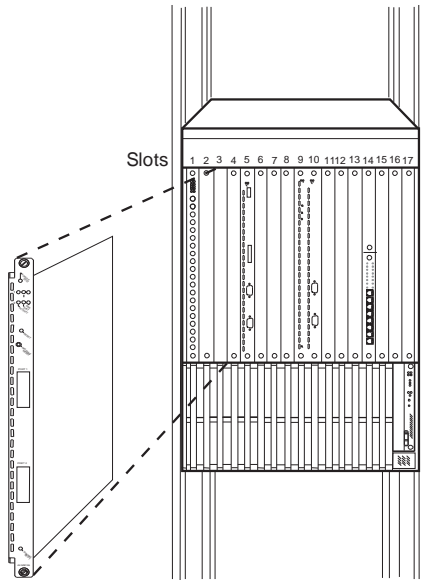
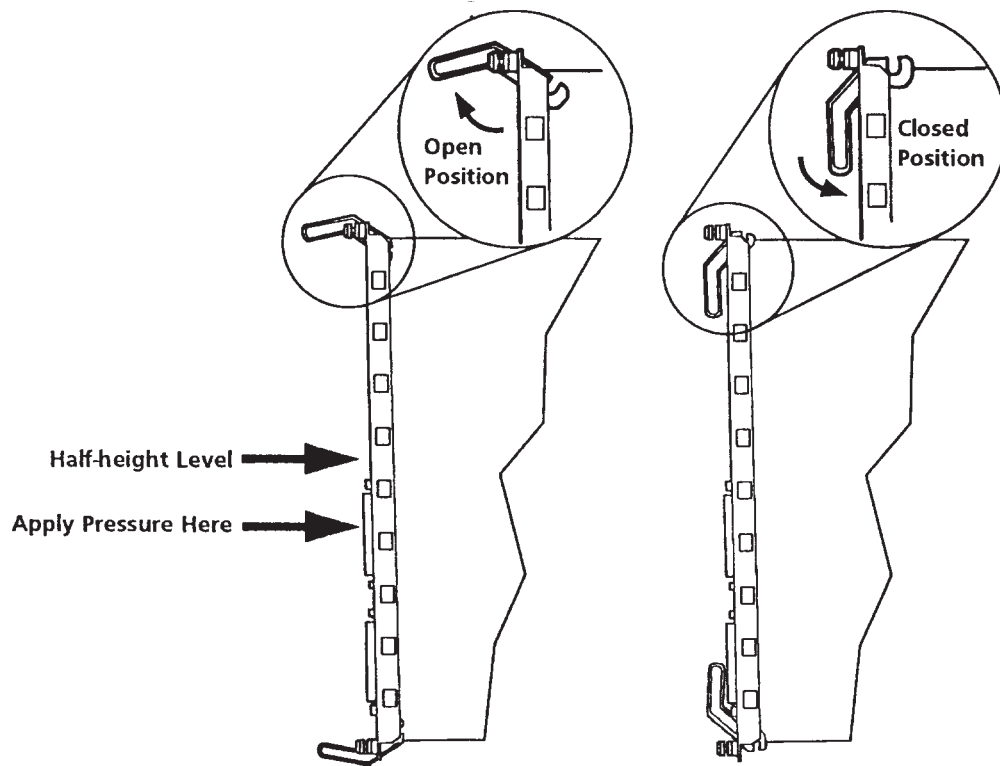

Figure 7. Installing the ATMflex Module in an 8260 Hub
Figure 8. 8260 Module Ejectors
6. Insert the ATMflex module into one of the free slots in the hub as shown in Figure 7 on page 39, matching the top and bottom board guides as you slide the module cleanly into place (by pressing evenly on the top and bottom of the faceplate). Do not attempt to push the module all the way into the hub until you have verified that the top and bottom module ejectors are OPEN (see Figure 8 on page 40.)